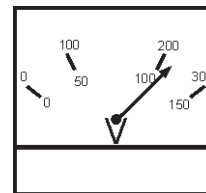

Figure 52. AC Voltmeter
14. The generator's AC-voltmeter (Figure 52) will display the generator's output in VOLTS.